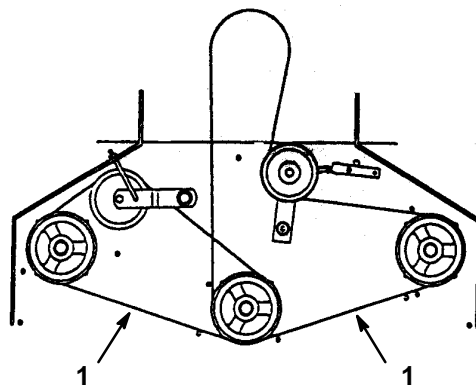

Figure 46
3. Remove mower belt (Fig. 46).
7. Install the mower belt (Fig. 46).
3. Loosen locknut and turnbuckle on idler arm. Remove worn belt (Fig. 46).
4. Install new belt and adjust belt tension, loosen the 5/16" locknut on turnbuckle and rotate the turnbuckle toward the rear of mower to tighten or toward the front of mower to loosen belt tension (Fig. 46).